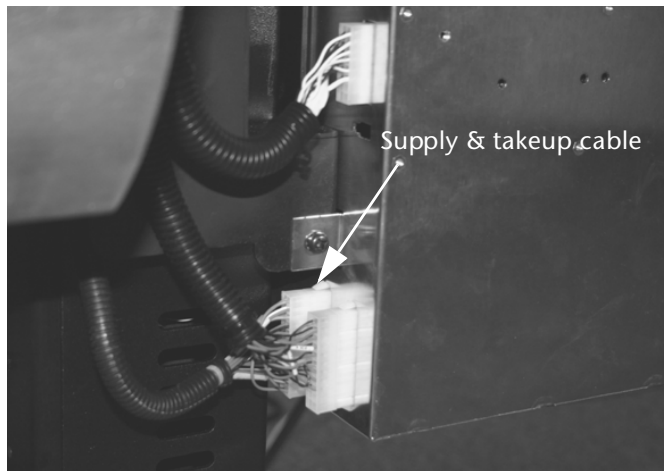

Fig. 1-12. Connecting the supply & takeup cable
35. Connect the supply and takeup cable to the port on the side of the electronics box (see Fig. 1-12).